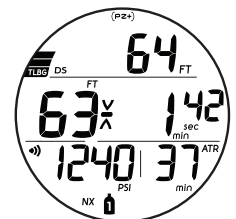

Fig. 97 - DS MAIN
**DEEP STOP MAIN**, information includes (Fig. 97):